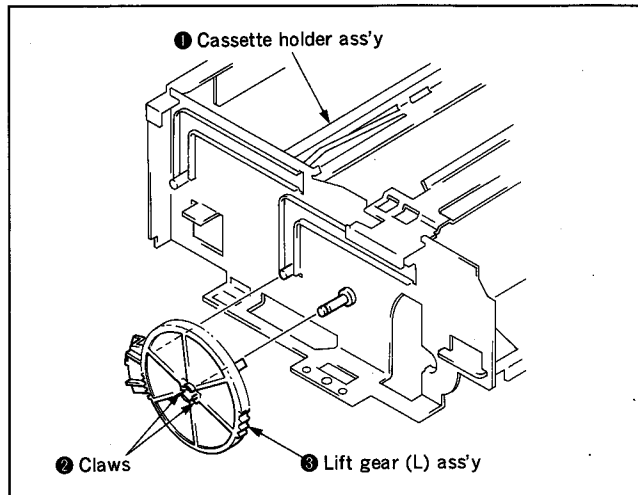

Fig. 3-3
- 1) Before installing the lift lever ass'y ⑮, first install the spring ⑭ to the assembly. (Fig. B)
- 2) Engage claw ⑬ on the lift lever ass'y with ⑫ part and insert the assembly.
- 3) After installation, remove the spring from the claw ⑬ and hook it onto the chassis. (Fig. B)
3-1-2. Lift Gear (L) Ass'y (Fig. 3-3)
- 1) Place the cassette holder ass'y ❶ in the loading state as instructed in Section 1-1.
- 2) Undo two claws and pull out the lift gear (L) ass'y ❸.